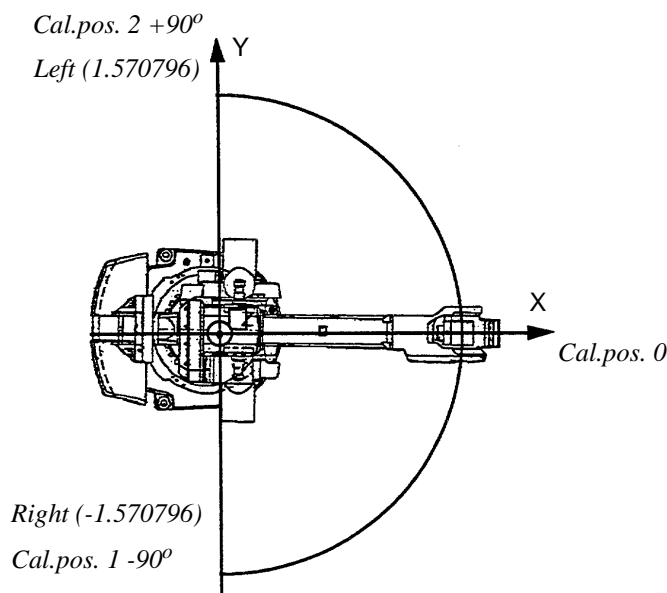

Figure 38 Calibration positions 0, 1 and 2 (Normal, Right and Left)
Before it can be calibrated in one of the two alternative positions, the robot must have been calibrated with calibration equipment at calibration position 0 for all axes (the robot is delivered with calibration position 0). See Figure 38.
2. Run the calibration program again and select the desired calibration position (Left or Right), see Figure 38.
- Change Cal pos to 1.570796 or -1.570796 depending on selected calibration position. The angle is in radians, see Figure 38.